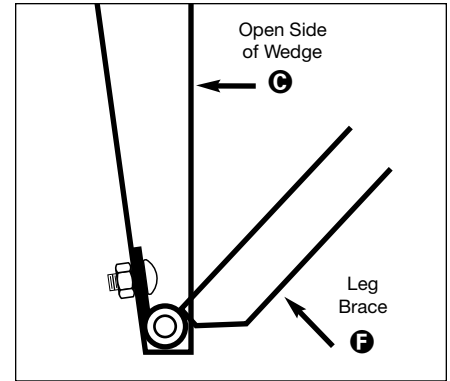

Figure 1
2. Remove inner leg wedge **G**, and mount leg brace **F** as shown in Figure 1. The hinge pin positioning is an important assembly element. The pin must be oriented as in Figure 1 for the unit to fold correctly. The hinge mounts to the inside face on the open side of the wedge. Use (2) 10-24 x 1/2" button head bolts and (2) 10-24 keps nuts.